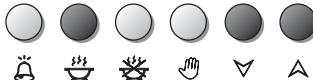

Fig. 12
1. Set the length of time you need to cook the food by pushing the  button and the  button to advance, or  to go backwards (Fig. 12).